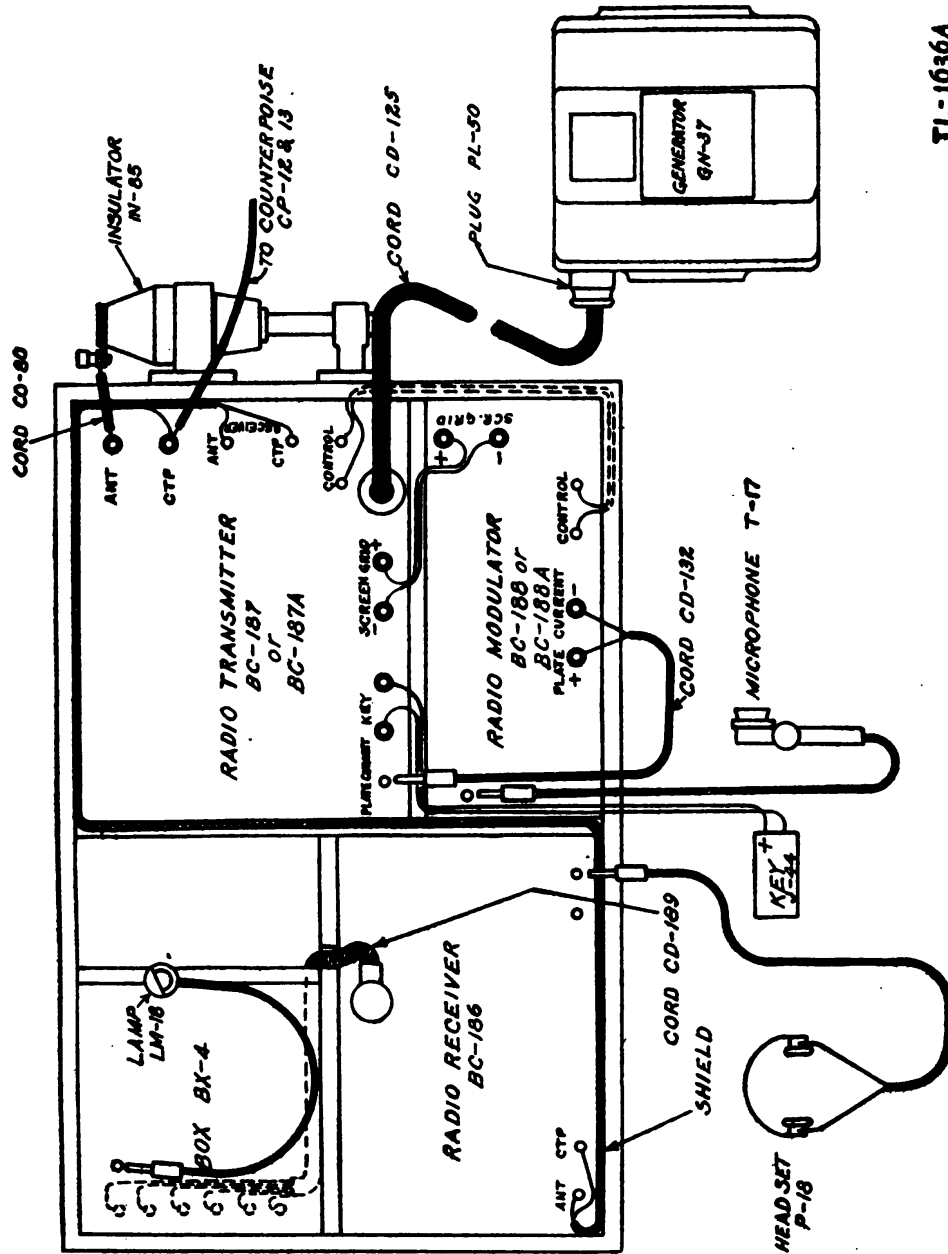

FIGURE 11.—Chest CH-38 cording diagram.
(2) Replace the units and connect all leads secured in the chest to binding posts according to the diagram on the inside of the cover (fig. 11). Draw the cord from the battery box through the adjoining compartment and connect it to the receptacle on the panel of the receiver. Slip the key into the brackets on the inside of the cover.